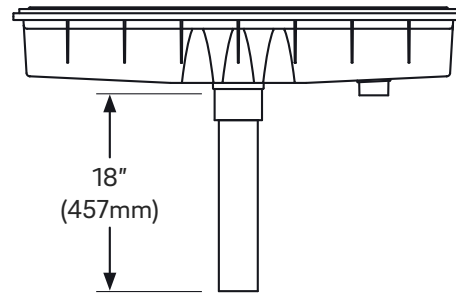

Figure 7
6. After the glued joint on the 90° elbow has set, remove the dry-fit riser from the fitting's socket. Using ABS to PVC glue to connect the riser to the suction fitting on the bottom of the AVSC sump (Figure 7). Once the glue joint between the riser and the sump has fully set, the proper height of the AVSC drain can be set.